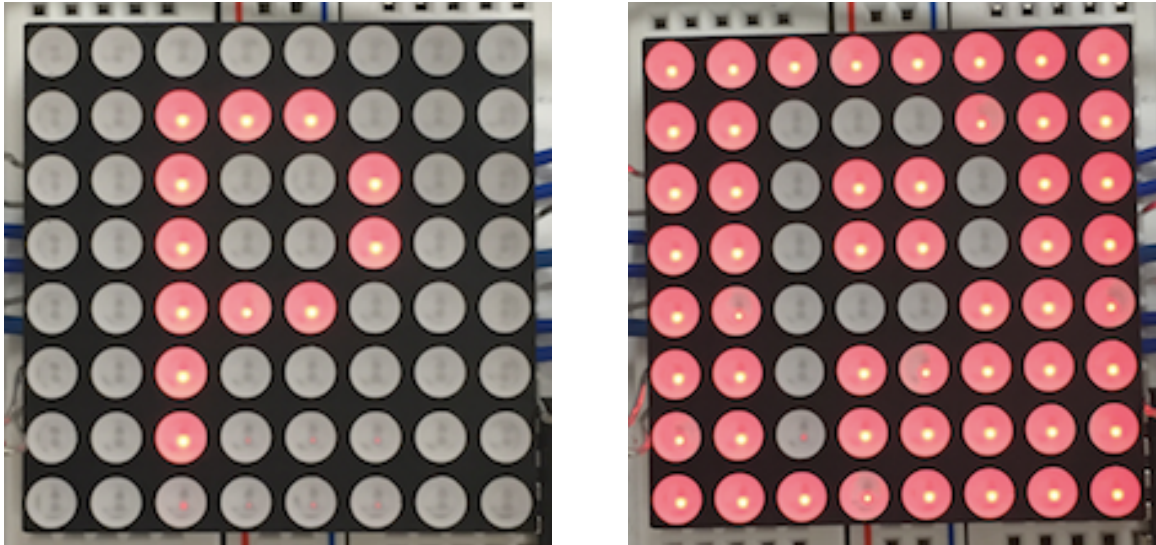

Figure 3: Example of Positive Display (Left) and Negative Display (Right)
3. When the 'Reset' button is pressed, the LED display is to toggle between displaying the assigned character in positive or negative. See Figure 3 below to see what these look like.